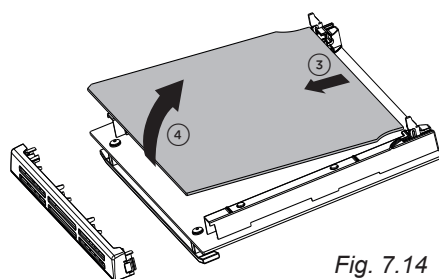

Fig. 7.14
- Gently lift and pull out the inner pane of glass by releasing it from the bottom retainers. Do not angle the pane too much as you may damage the glass (fig. 7.14).